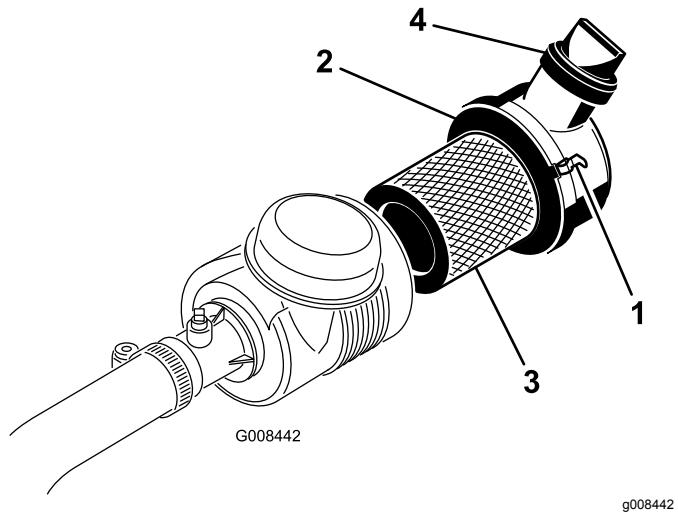

Figure 38
- Release the latches securing the air-cleaner cover to the air-cleaner body (Figure 38).
- Install the cover and secure the latches (Figure 38).